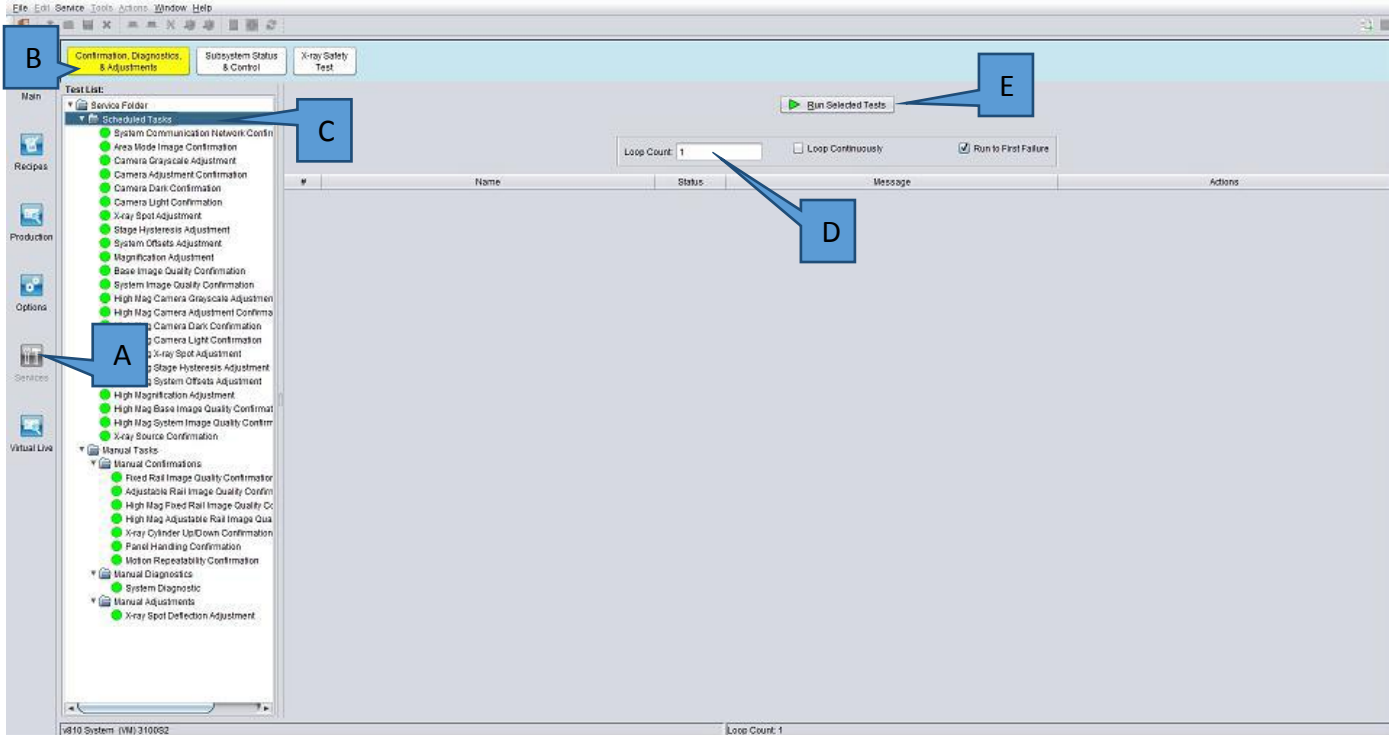

Figure 5 CD & A
- Go to Confirmation, Diagnostic and Adjustment tab and perform 1 loop full CD&A task to obtain latest log file as show in Figure 5.